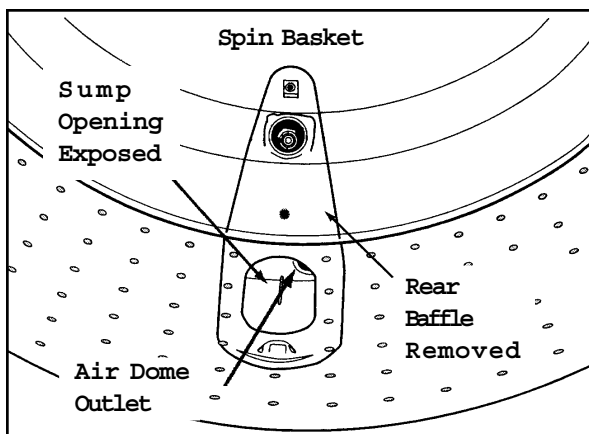

Figure 6-3
4. Grasp and lift the airdome hose from the sump area (*See Figure 6-3*).
5. Pull the air dome and hose out through the sump opening in the spin basket (**Figure 6-3**).
1. Thread the narrow end of the hose through the air dome outlet in the rear of the outer tub (**Figure 6-3**). Apply alcohol to lubricate the hose to ease insertion into the outer tub air dome outlet.